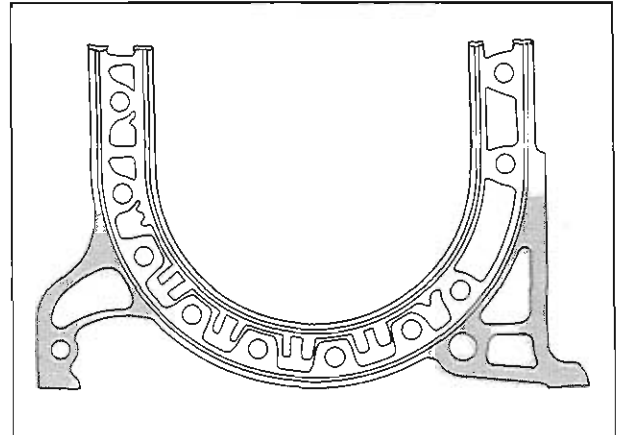

Fig. 1-69 Applying sealing agent
1. Apply sealing agent onto the front side of the rotor housing, as shown in Fig. 1-69.